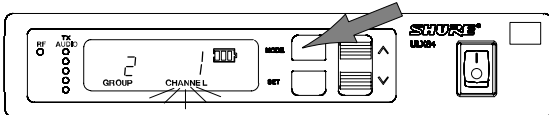

FIGURE 14
1. Press the MODE button three times. The word CHANNEL will flash on the display, as shown in Figure 14.